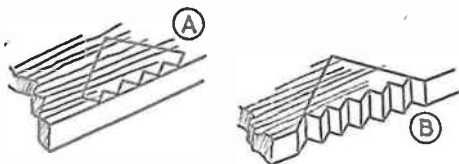

Fig. 4
The next stage is the making and fixing of the deck fittings, consisting of the hatch and steps. Fig. 4 shows how these latter are made. They are cut from waste $\frac{1}{4}$ in. wood, the notches to form the steps being made with a razor blade as shown at B in Fig. 4. The small brackets (Q), which form supports for the